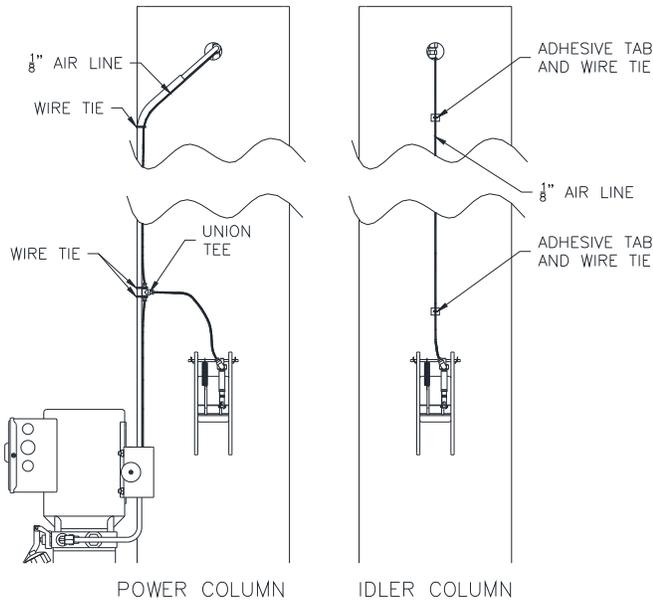

Fig. 14-Lock Release
- 25) On the Power Column, attach the 1/8" air line from the lock release air cylinder to the push-lock tee fitting. Run another section of 1/8" air line from the button valve to the tee (**Fig. 14**).
- 26) Connect the rest of the 1/8" air line to the top of the tee and run it up the column attaching it to the hydraulic line using wire ties (**Fig. 14**).
27) After running the 1/8" air line along the hydraulic line in the overhead and out the other opening in the Idler Column (**Fig. 14**), run the air line down the column using adhesive tab and wire ties. Attach it to the lock release air cylinder (**Fig. 14**).